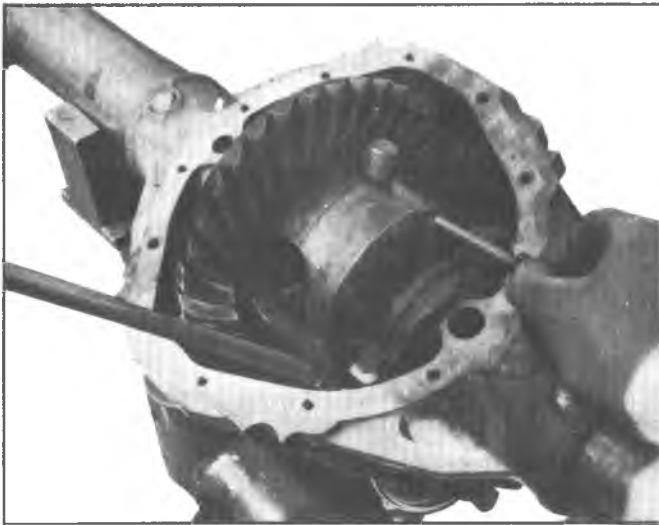

Fig. 9—Removing Lock Screw
3. Rotate the case **to the position shown in figure 9**. Support the pinion shaft so that it cannot fall into the case, then remove the lock screw.